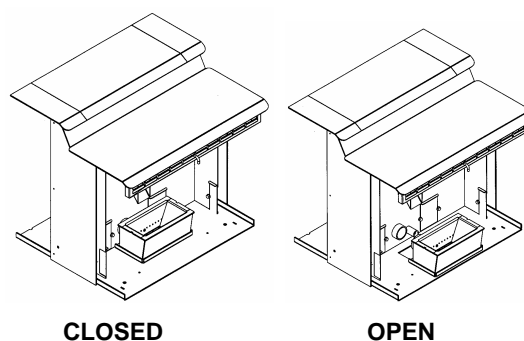

FIGURE 25
- Remove optional imitation log set, if in use. Remove burn pot by grasping it, and the slider plate, and pulling straight out (refer to Figure 25).